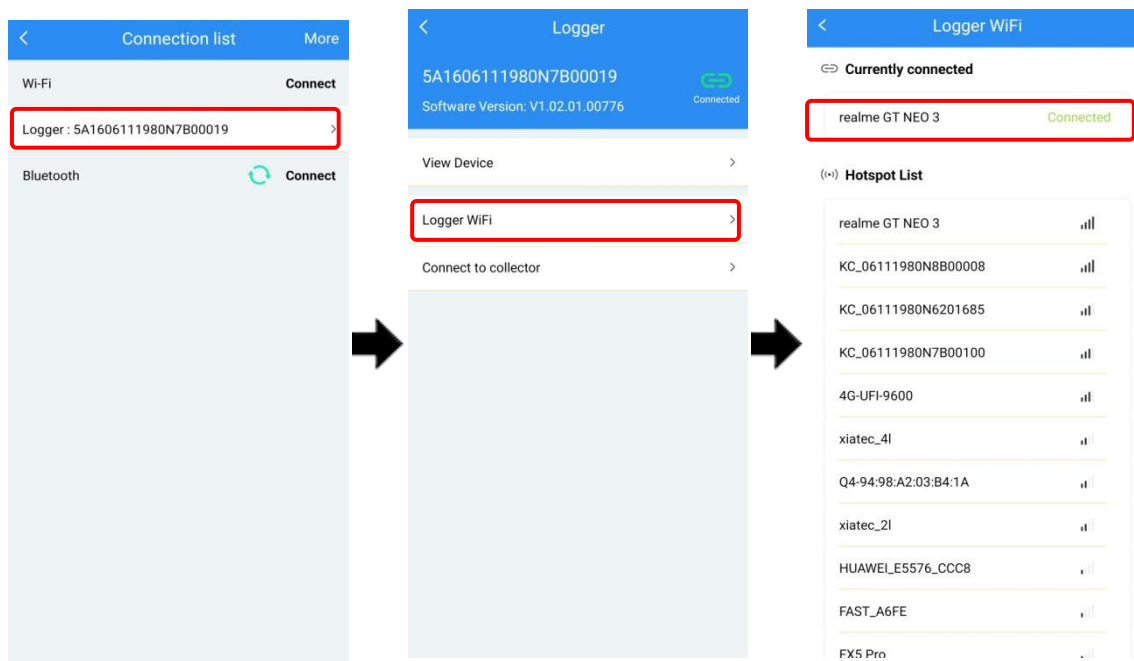

Figure4-7 Configure WiFi
- Step 9 Click the device SN to enter the page as shown in Figure4-7. Click "**Logger WiFi**", select a available WiFi in "**Hotpot list**", when it prompts: **WiFi connecting successful**, click "**OK**". At this time, the currently connected WiFi should show "**Connected**".